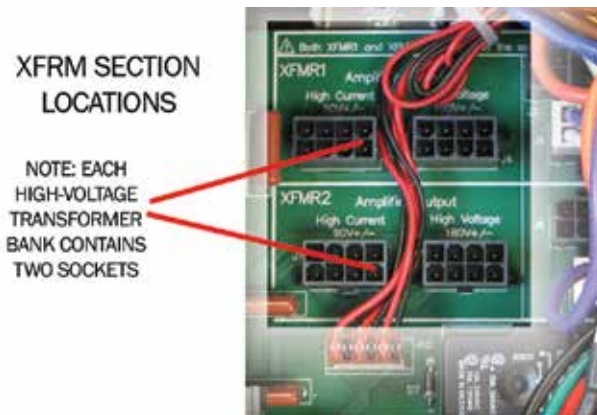

Figure 6.9 – Location of Amplifier High-Voltage Transformer Sockets
1. Locate the two XFMR sections (left of Line Voltage sections) (see **Figure 6.9**).